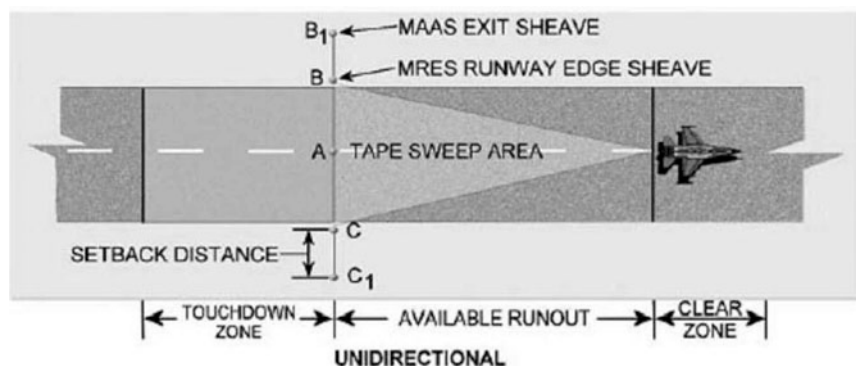

Figure 1-48. MRES positioning.
- b. Add 15 feet (4.5m) to the length of the pendant/hook cable. Divide the sum in half. This number is the distance from point A to point B on figure 1-48.